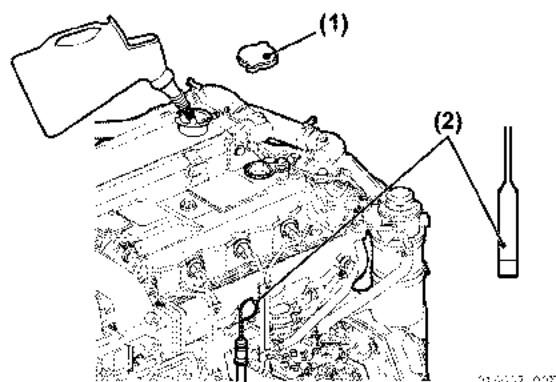

**Figure 5-200**
73. Connect the electric wires to the terminals before attaching the alternator to the gear case (**Figure 5-200**).